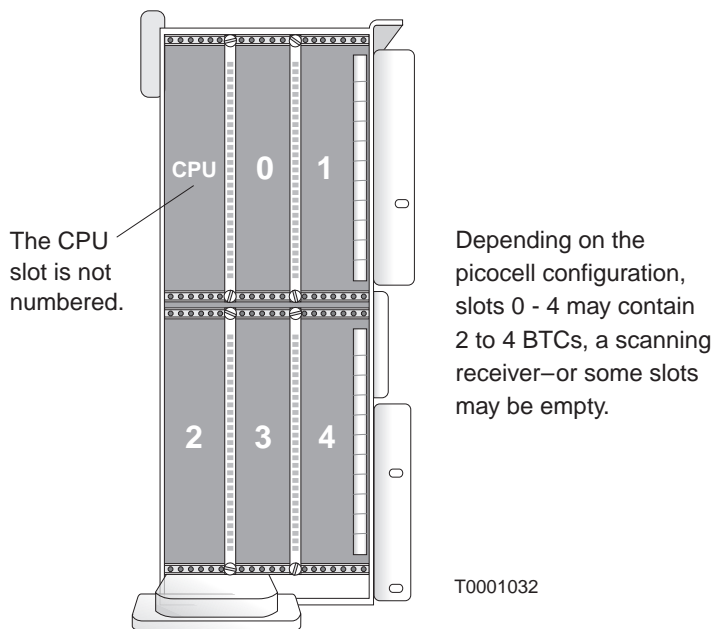

Figure 6-5 Picocell slot numbers
1. Determine which picocell slots contain transceivers (BTCs). A label attached to the picocell tells you which slots contain BTCs. The slot arrangement and numbering scheme are shown in Figure 6-5.